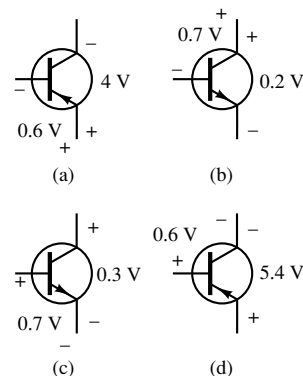

Figure P10.1
- 10.1** For each transistor shown in Figure P10.1, determine whether the BE and BC junctions are forward- or reverse-biased, and determine the operating region.